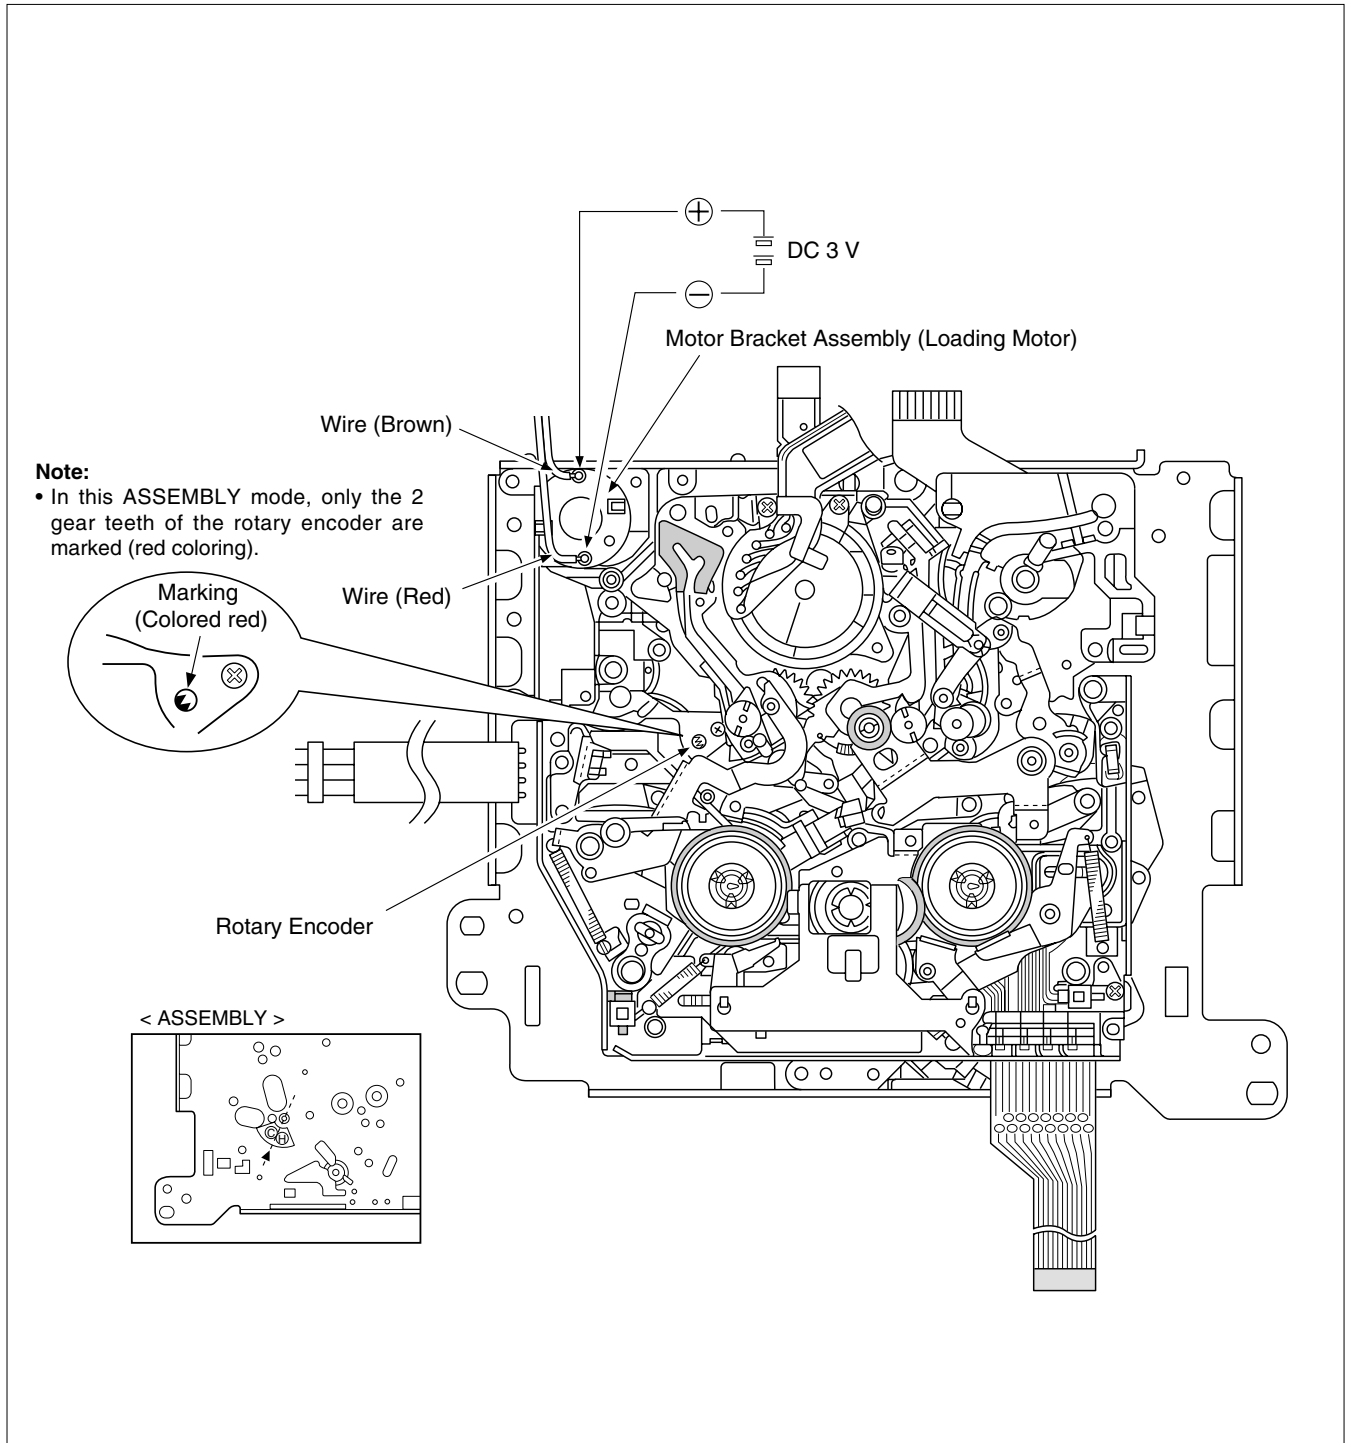

Fig. 2-10-7
To set the ASSEMBLY mode, apply 3 V DC to the electrodes on the upper part of the loading motor as shown in Fig. 2-10-7.
- **This mechanism assembly has another ASSEMBLY mode. However, this mode cannot be identified from the markings because it corresponds to an intermediate position between the C-IN (C) mode and S-FF (H) mode. This mode can be confirmed by the rotary encoder phase. See Fig. 2-10-7.**